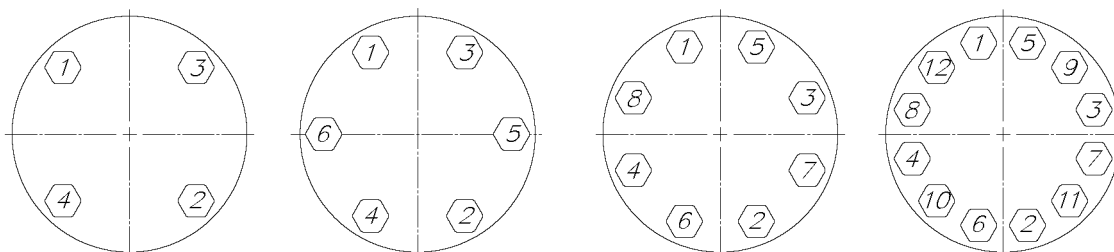

Fig. 18. Sequence of the body nuts tightening
e) screw the nuts (23) on the body screws. The sequence of tightening of the nuts is presented in Fig. 18 and the recommended torques are given in Table 8.
f) insert the retaining ring (40), retaining plate (36) and gaskets (37, 38),
g) tighten the nut (41) taking care so as not to overtighten the packing set of the bellows bonnet, as it may result in the damage to the bellows,
i) tighten the nuts (44) on the screws of the bellows seal bonnet housing. Tighten the nuts until tightness is achieved. The sequence of the nuts tightening is presented in Fig. 18.